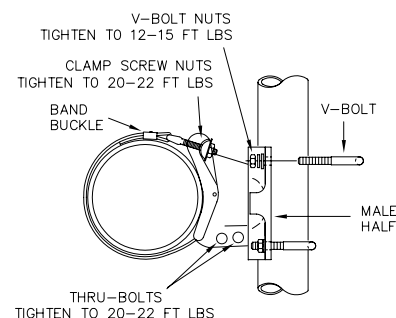

Figure 7
8. Position Tube into Male Half of Clamp Kit. (Figure 7) Insert V-bolts as shown and attach with lock washers and nuts.
9. Aim and position signal to the desired height and direction and tighten nuts on two (2) V-bolts to 12-15 ft. lbs. of torque. **DO NOT OVERTIGHTEN.**
10. Plumb or level signal and tighten two (2) 5/16" Bolts on Female Half of Clamp Kit to 20-22 ft.lbs. of torque. **DO NOT OVERTIGHTEN.**
11. Tighten Clamp Screw Nuts (2) to 20-22 ft. lbs., using an 11/16" box end wrench or ratchet. (Figure 7) **NOTE:** Tightening the clamp screw nuts firmly with a 7" wrench will produce approximately 20 ft. lbs. of torque. This is all that is necessary to hold the Astro-Brac Clamp Kit in place. **DO NOT OVERTIGHTEN.**